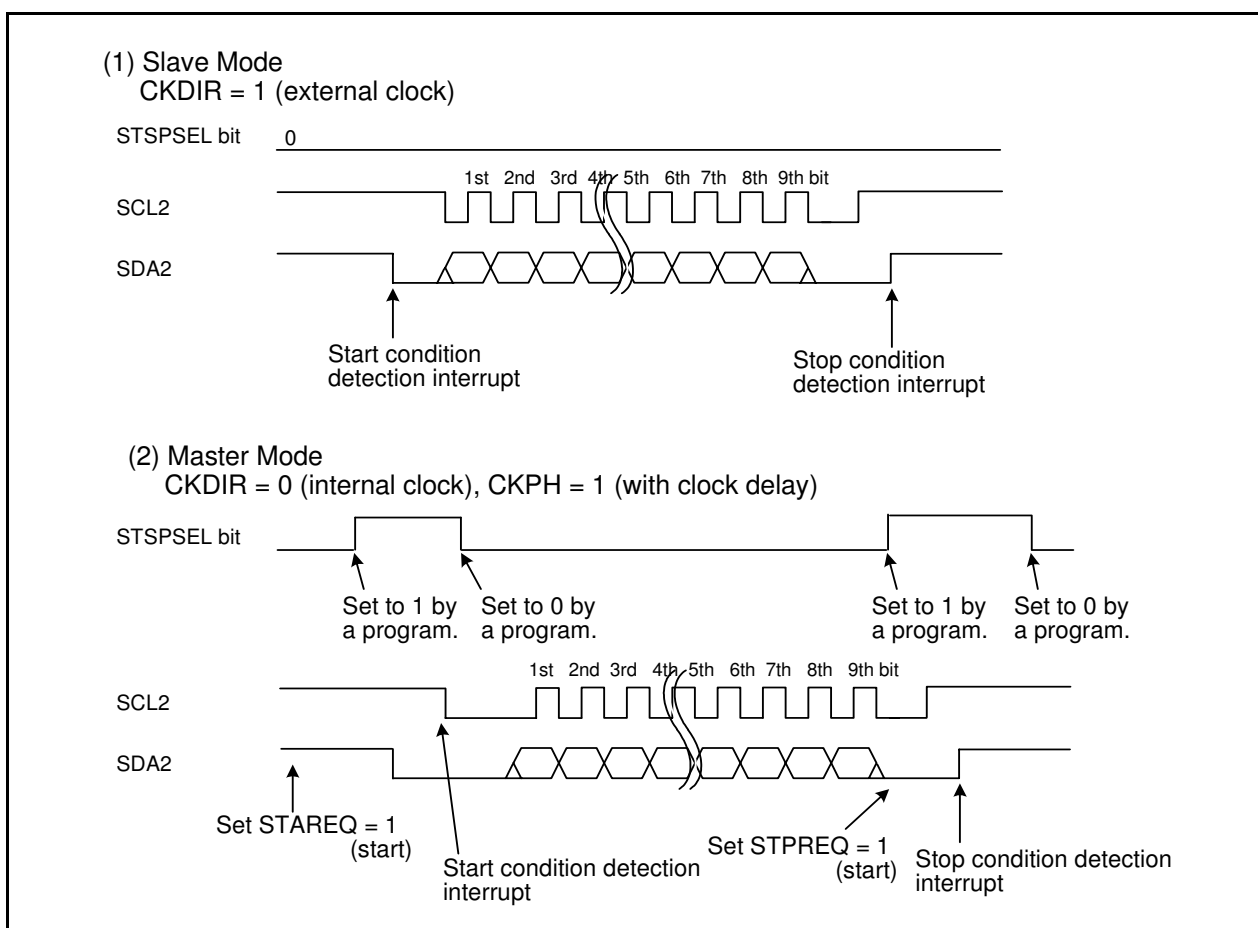

Figure 24.16 STSPSEL Bit Functions
5. Refer to **Figure 24.16 STSPSEL Bit Functions**.
Table 24.13 lists the STSPSEL Bit Functions. Figure 24.16 shows the STSPSEL Bit Functions.